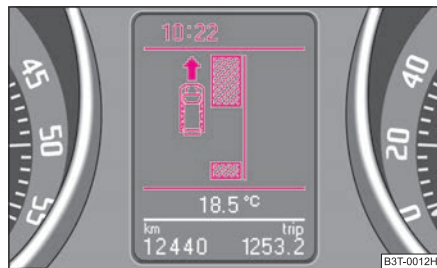

Fig. 129 Information display: Parking place recognized with the information to drive on
- If the park assist has recognized a suitable parking place, the parking place is shown in the information display* ⇒ **fig. 129**.